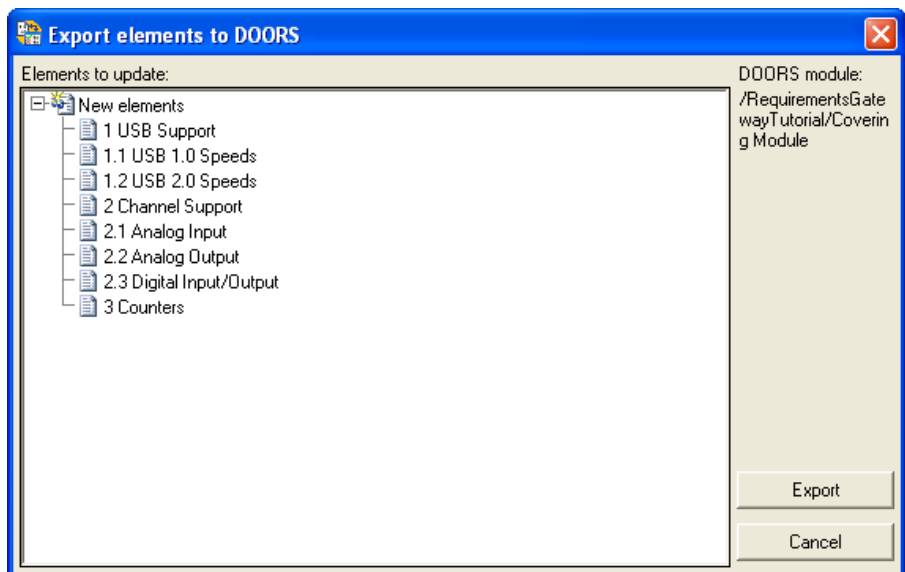

Figure 11-6. Confirmation for Export Elements to DOORS
5. Click **Export** to display a confirmation dialog box that lists the new elements to export to DOORS as shown in Figure 11-6.